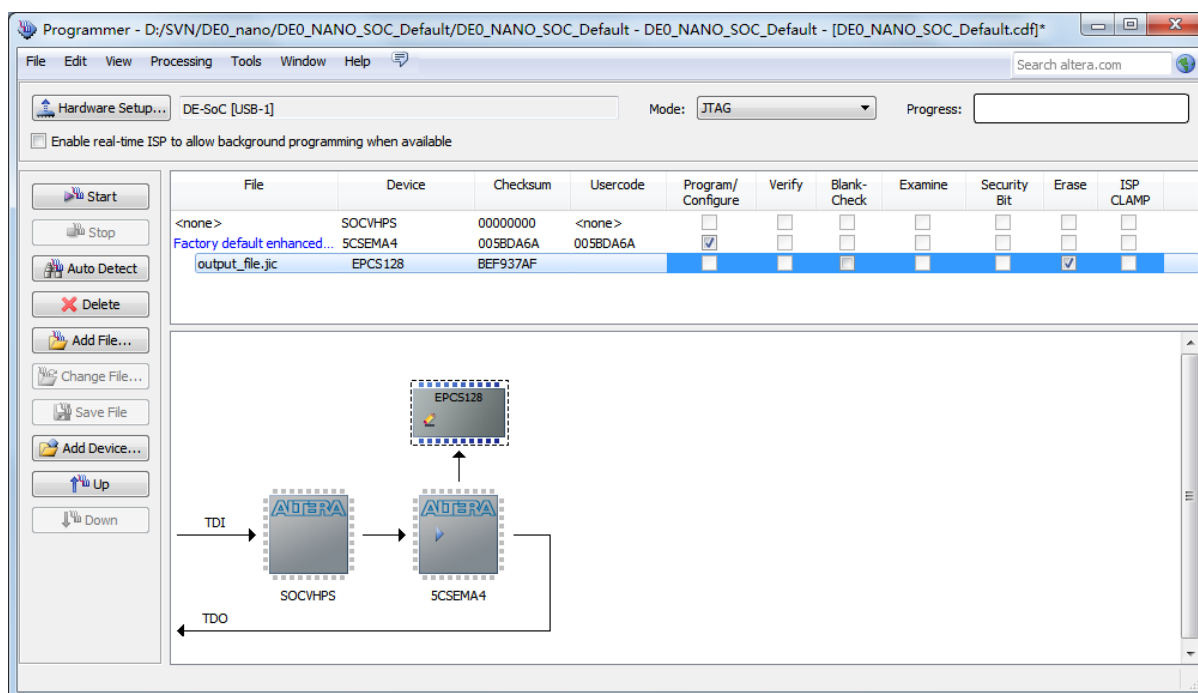

Figure 8-9 Erase the EPCS device in Quartus II Programmer
5. Erase the EPCS device by clicking the corresponding **Erase** box. A factory default SFL image will be loaded, as shown in Figure 8-9.